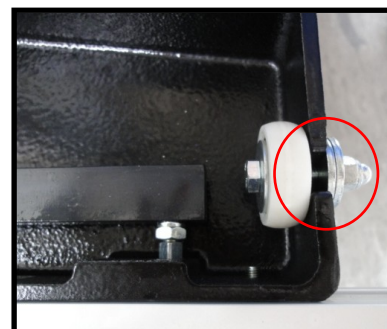

Fig. 16
12. Check if the bottom of the rip fence rests on the surface of the table. If the rip fence does not rest on the table, then the fence is correctly adjusted, otherwise, loose the set screw (Fig. 16) and rotate the hex bolt to raise the roller, tighten the set screw to lock the ride height.